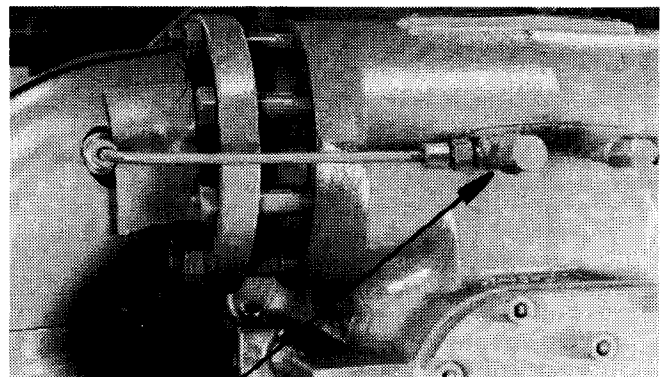

Fig. 28 Valve AV18
- 7.3 While the unit is idle, the pressure in the compressor and in the oil separator drops to the suction pressure via valve AV18. See Fig. 28.
See to it that valve AV18 (see Fig. 28) is open. Valves that interface with the environment such as drainage and filling valves must be closed of course.